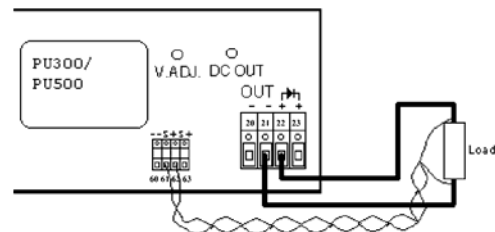

Figure 6. External sense.
- Connect a twisted-pair (0.25mm² -1.5mm²) between the sense terminals of the converter and the load, see Figure 6. The sense leads and the power cables shall be of approximately the same length and drawn as close to each other as possible. **Beware of correct polarity!**